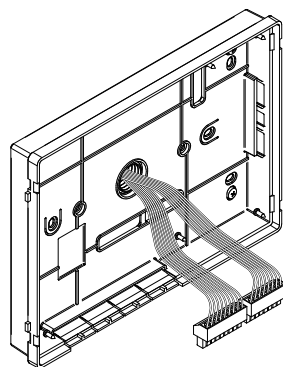
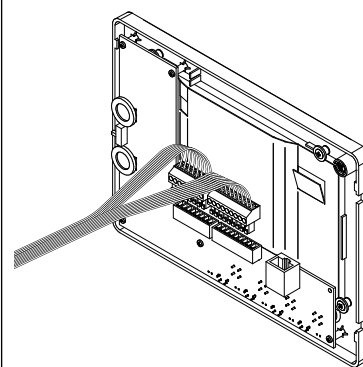

Fig. 5
Fig. 6
5. As shown in Fig. 5, connect the wires to the removable terminals following the provided installation diagram. Connect the terminal blocks to the electronics contained in the cover as shown in Fig. 6. Test system before closing. Contrast and hue trimmers can be adjusted only if the videophone is open. To activate the display and see changes use the "Camera Recall" function by pressing  button.